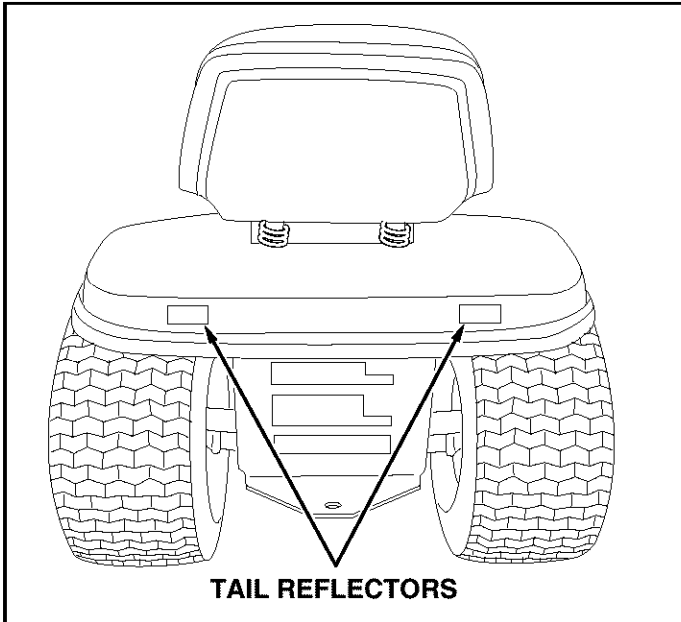

FIGURE 28
- If your tractor is not equipped with rear reflectors, assemble the tail reflectors to the rear fender. Place the reflectors as close to the bottom of the fender and as far apart as the shape of the fender will allow. See figure 28.